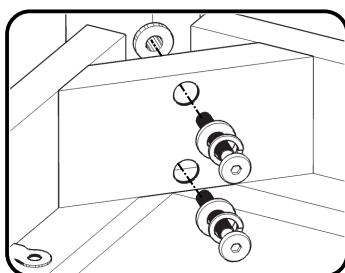

Figure 2
Attach Legs (B) to Top (A) with Flat Washers, Spring Washers and Head Cap Bolts (long), tightening bolts only halfway. (See Figure 2)